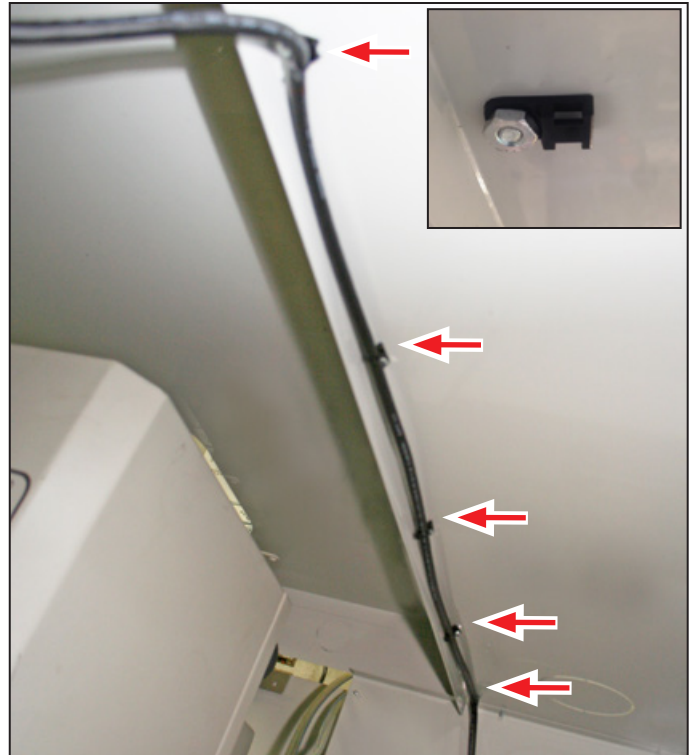

Figure 7
18. Use five 10-32 Hex Nuts to attach the Mounting Tabs to five preinstalled screws in the enclosure ceiling (see **Figure 7** and **inset**).